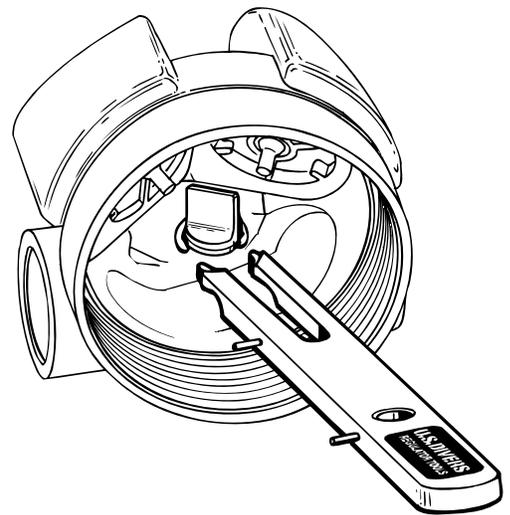

Fig. 6 - V.A.S. Circlip Removal
27. While holding the box bottom secure, place the tines of the Circlip/ Retaining Ring Tool squarely against the ends of the circlip(19). Gently press the circlip straight off the vane adjustment switch (see Fig. 6), and set it aside.